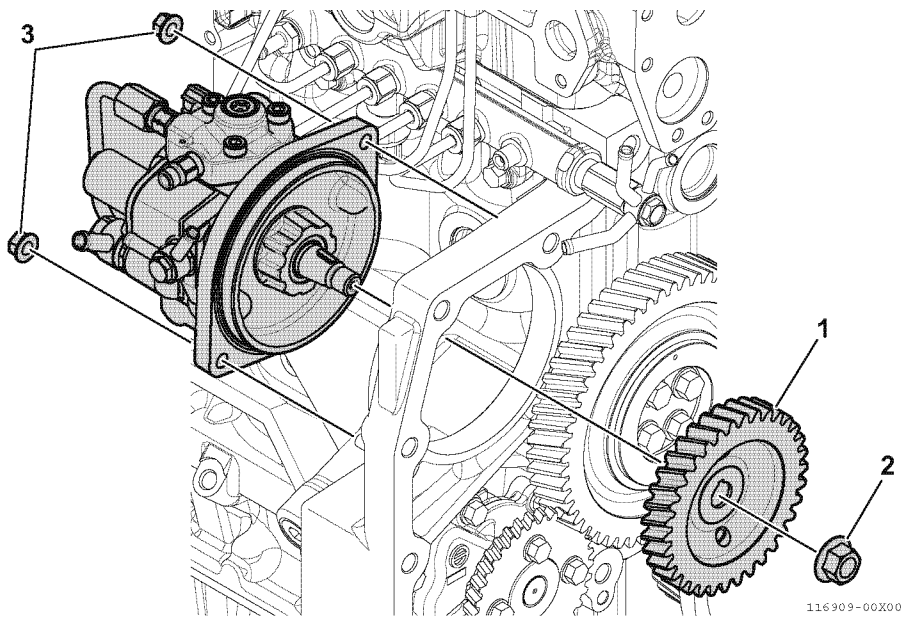

Fig.50-7
- 2 - Remove the mounting nut (2, Fig.50-7) of the supply pump drive gear (1, Fig.50-7).
- 4 - Loosen the supply pump attaching nut (3, Fig.50-7), and remove the supply pump together with the supply pump spacer (4, Fig.50-7) and the pump gasket.